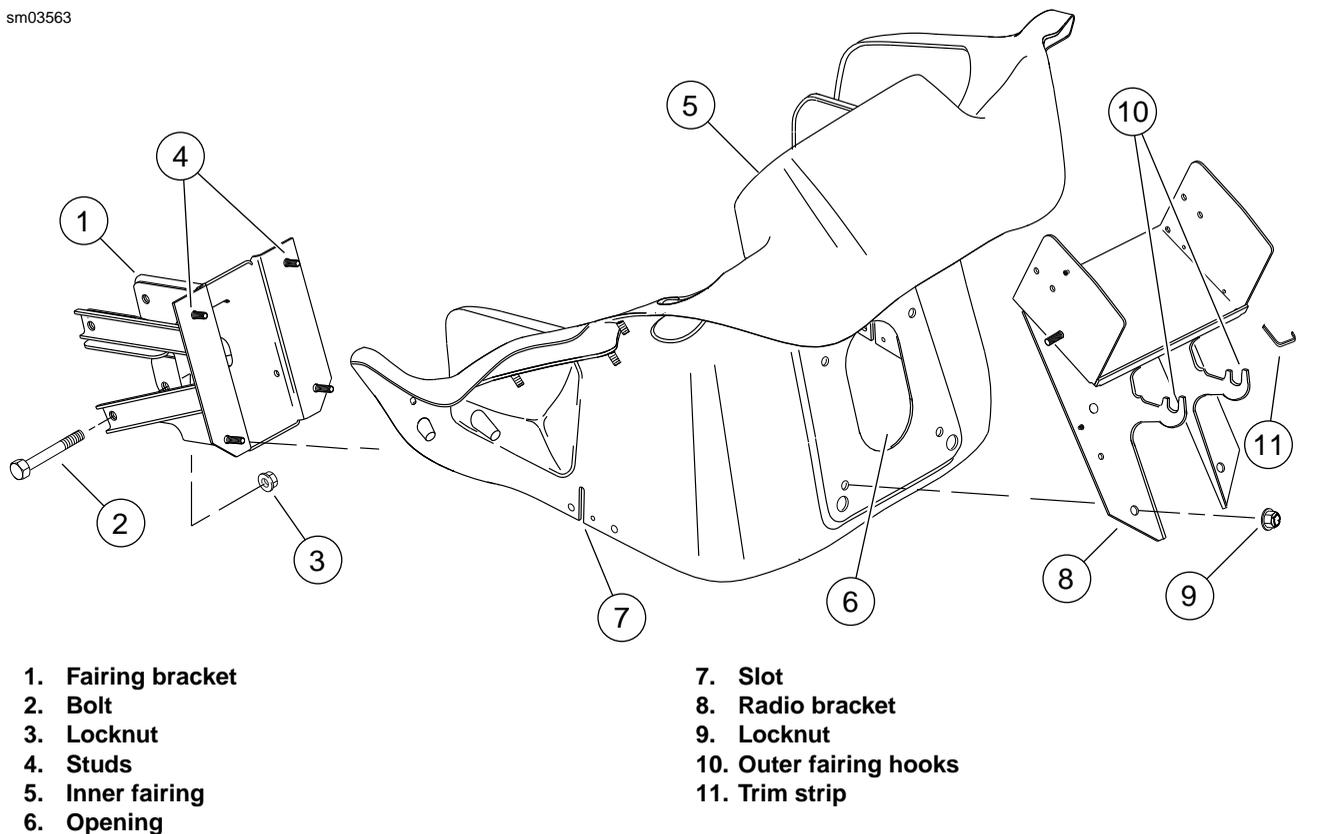

Figure 2-153. Inner Fairing Assembly
18. Remove four locknuts to release radio bracket and inner fairing from studs of fairing bracket. See Figure 2-153.
2. Place inner fairing over four fairing bracket studs while feeding end of harness bundle through opening beneath radio. See Figure 2-153. Verify that sides of inner fairing are positioned outboard of both fairing supports (on engine guards).